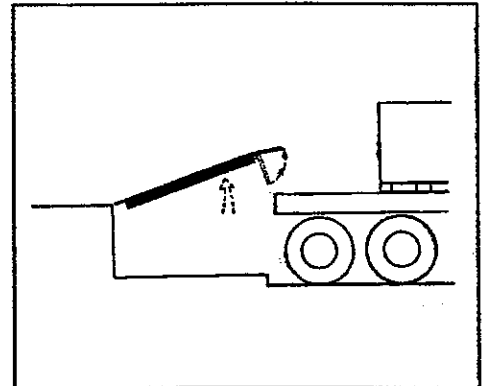

Fig. 31. Raising Dock Leveler
4. Press the "RAISE" pushbutton. The dock leveler will raise. When the leveler platform is fully raised and the lip is fully extended, release the "RAISE" pushbutton. The leveler will descend until the lip contacts the truck/trailer bed. See Figure 31.
4. Press the RAISE pushbutton. The dock leveler will raise. When the leveler platform is fully raised and the lip is fully extended, release the RAISE pushbutton. The leveler will descend until the lip contacts the truck/trailer bed. See Figure 31.